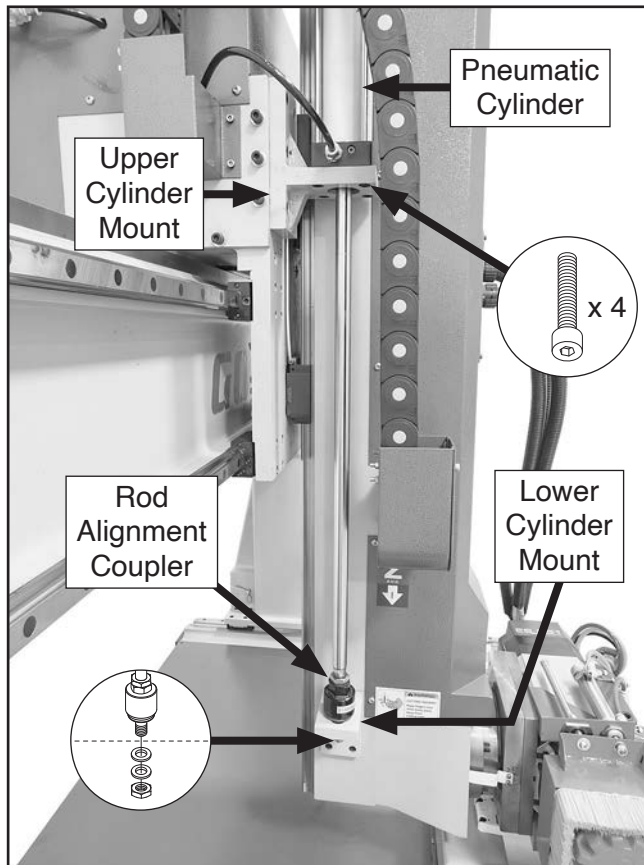

Figure 50. Placing pneumatic cylinder.
23. Place pneumatic cylinder on upper cylinder mount and secure with (4) cap screws removed in **Step 22** (see **Figure 50**).
24. Extend rod alignment coupler to lower cylinder mount and secure with (2) 16mm flat washers and (1) M16-1.5 hex nut removed in **Step 22** (see **Figure 50**).